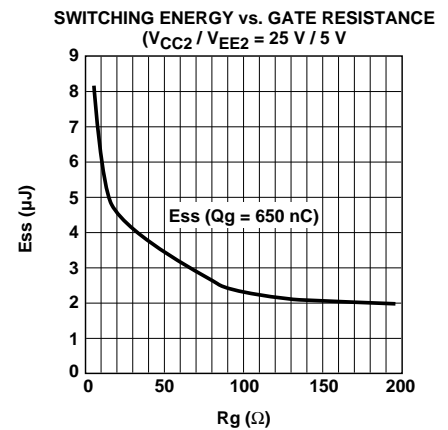

Figure 77. Switching Energy Plot for Calculating Average P_{switch} (for HCPL-316J Output Driving an IGBT Rated at 600 V/100 A).
2. Calculate total power dissipation in the part referring to Figure 77.
For $R_G = 10.5$, the value read from Figure 77 is $E_{SWITCH} = 6.05 \mu\text{J}$. Assume a worst-case average $I_{CC1} = 16.5$ mA (which is given by the average of I_{CC1H} and I_{CC1L}). Similarly the average $I_{CC2} = 5.5$ mA.
$P_i = 90.8 \text{ mW}$, $P_o = 314 \text{ mW}$, $T_A = 100^\circ\text{C}$, and assuming the thermal model shown in Figure 77 below.